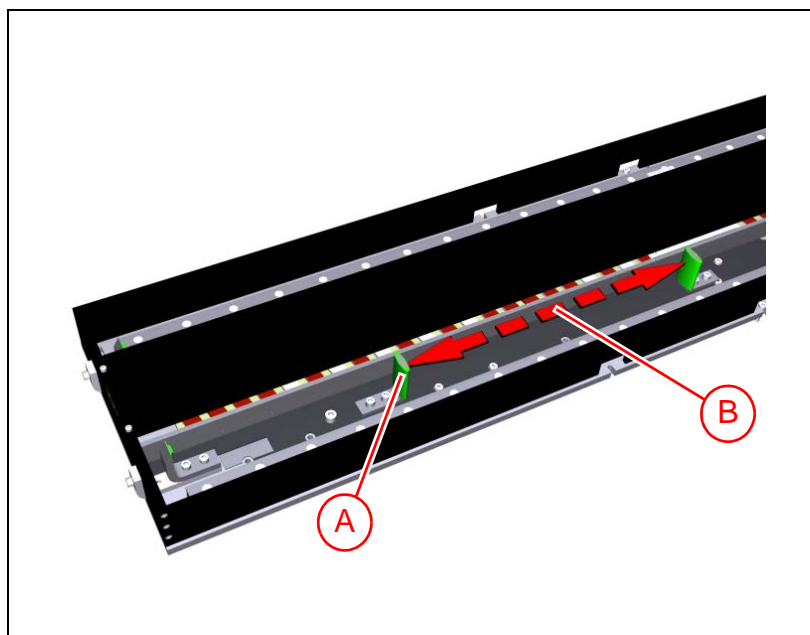

Figure 2-15. Y module shipping brackets.
4. The Y-module shuttle and conveyor must be secured with shipping brackets ('A' in Figure 2-15). Place and secure the Y-module shuttle between the two shipping brackets ('B').